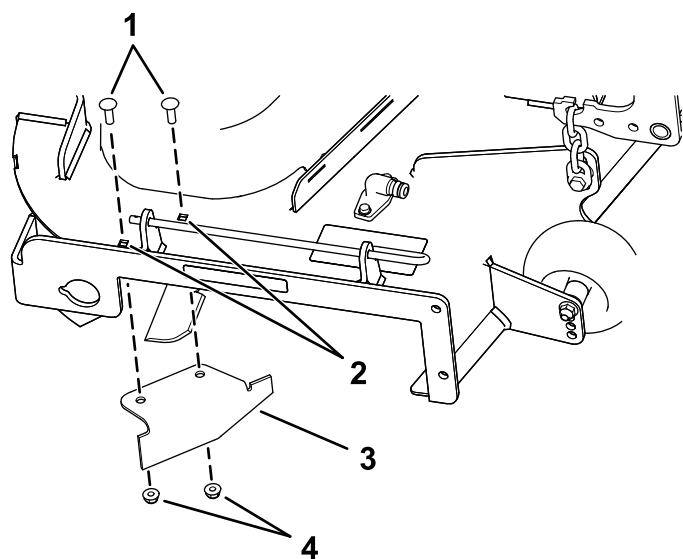

Figure 16
9. Locate the cutoff baffle in the loose parts bag and remove the fasteners at the rear holes of the discharge plate (Figure 16).